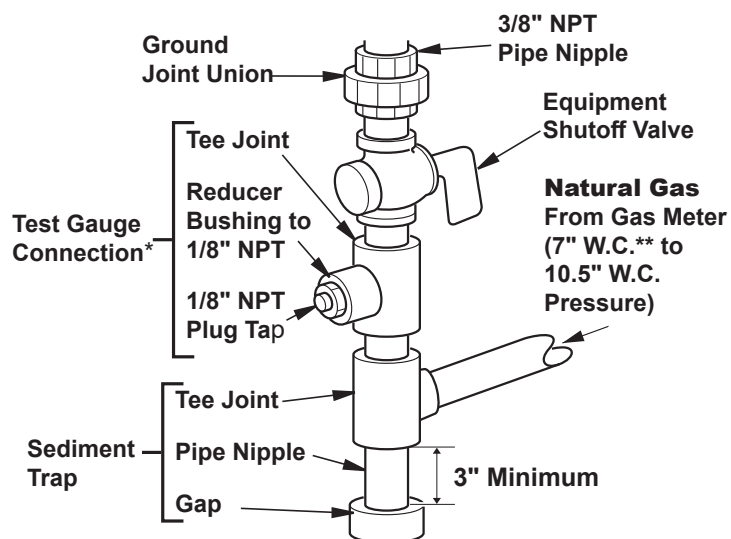
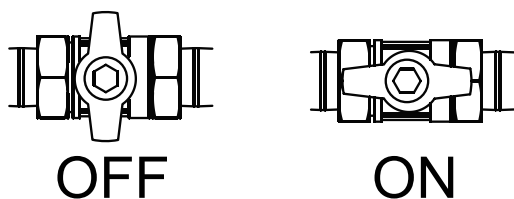

Figure 20 - Gas Connection
Figure 21 - Equipment Shutoff Valve
Use 3/8" black iron pipe or greater. Installation must include an equipment shutoff valve, union, and plugged 1/8" NPT tap. Locate NPT tap within reach for test gauge hook up. NPT tap must be upstream from heater (see Figure 20).
For both gas types, install sediment trap in supply line as shown in Figure 20 (page 16). Place sediment trap where it is within reach for cleaning. Place sediment trap where trapped matter is not likely to freeze. A sediment trap traps moisture and contaminants. This keeps them from going into heater controls. If sediment trap is not installed or is installed wrong, heater may not run properly.
1. Close equipment shutoff valve (see Figure 21).
3. Check all joints from gas meter to equipment shutoff valve for natural gas or propane supply to equipment shutoff valve for propane (see Figure 20 on page 16 and Figure 21). Apply a noncorrosive leak detection fluid to all joints. Bubbles forming show a leak.
1. Open equipment shutoff valve (see Figure 21).